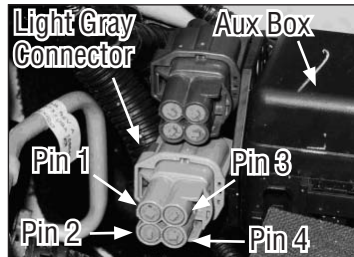

Figure 33
- Light Gray 4 PIN Connector (**Fig. 33**)